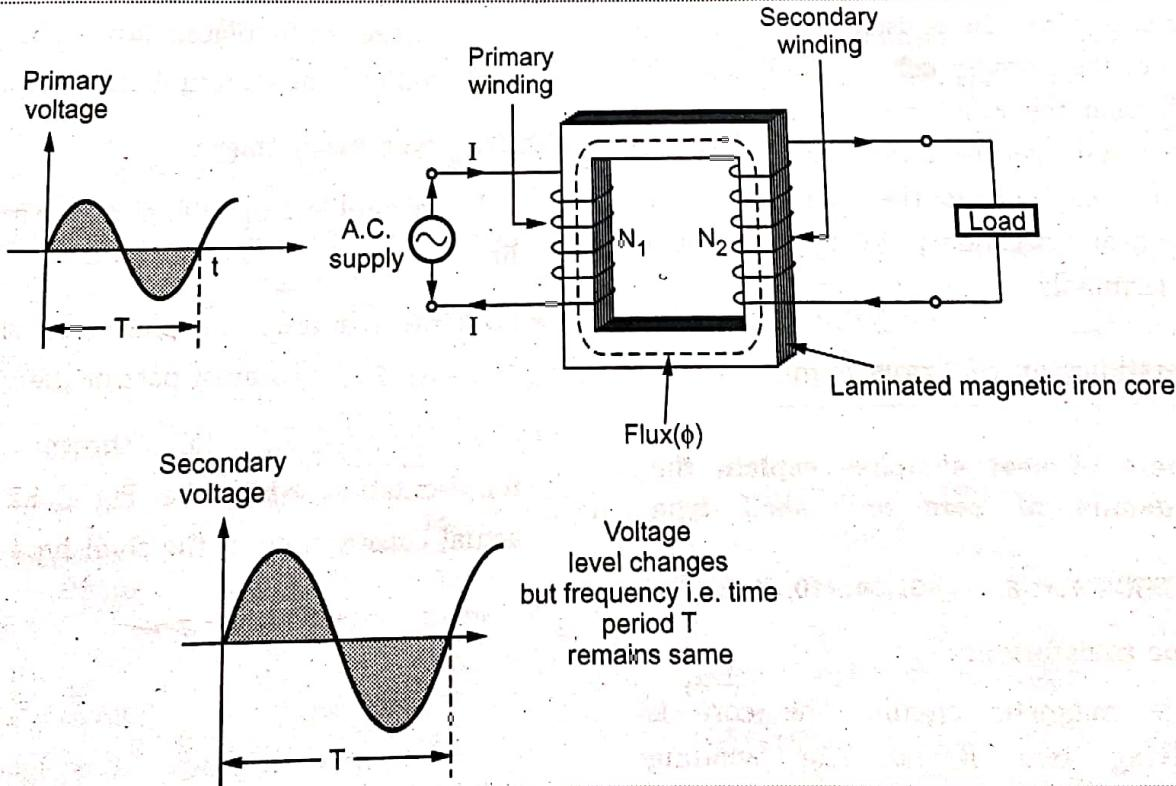

Fig. Q.2.1 Basic transformer
- In its elementary form, it consists of two inductive coils which are electrically separated but linked through a common magnetic circuit. The two coils have high mutual inductance. The basic transformer is shown in the Fig. Q.2.1.
- This current produces an alternating flux ( $\phi$ ) which completes its path through common magnetic core as shown dotted in the Fig. Q.2.1. Thus an alternating flux links with the secondary winding.